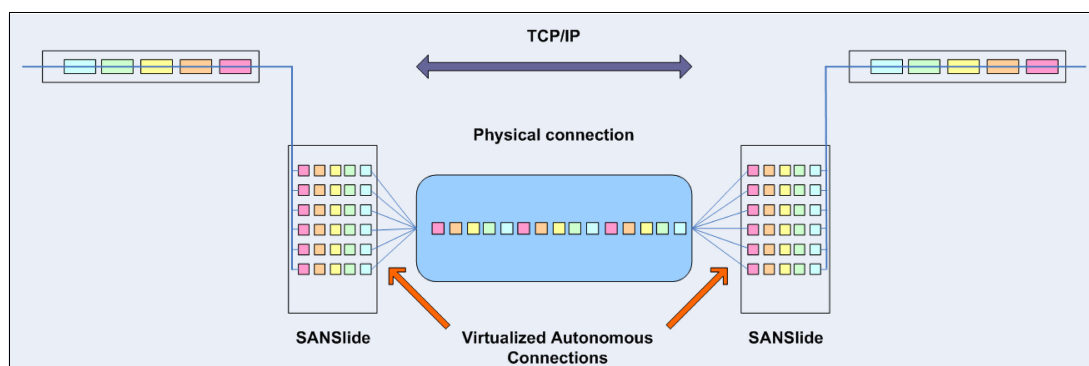

Figure 5-25 Optimized network data flow by using Bridgeworks SANSlide technology
However, by using the embedded IP replication, this behavior can be eliminated with the enhanced parallelism of the data flow by using multiple virtual connections (VC) that share IP links and addresses. The artificial intelligence engine can dynamically adjust the number of VCs, receive window size, and packet size as appropriate to maintain optimum performance. While the engine is waiting for one VC's ACK, it sends more packets across other VCs. If packets are lost from any VC, data is automatically retransmitted, as shown in Figure 5-25.